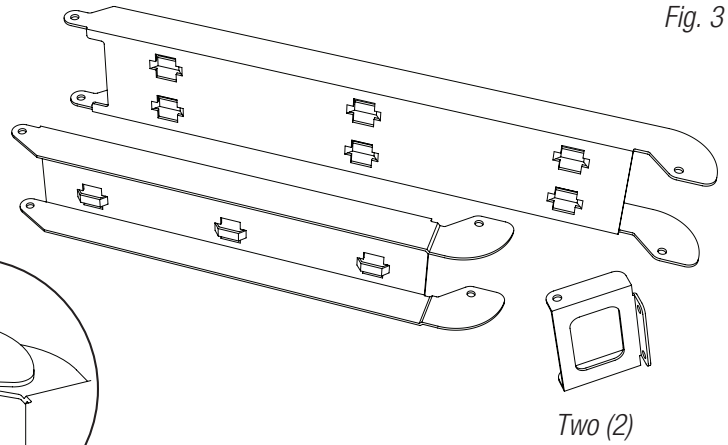

Fig. 3
1. Carefully unpack Z Bracket. Do not discard hardware (included) (*Fig. 3, pg. 3*).